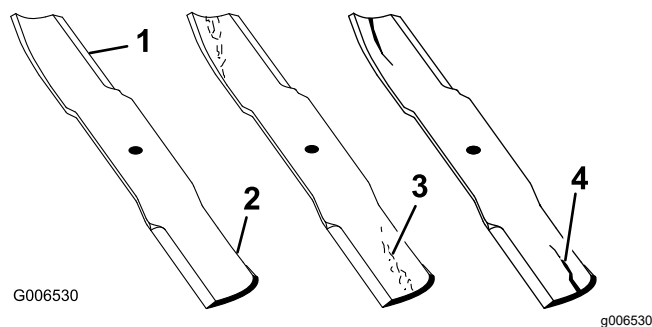

Figure 51
1. Inspect the cutting edges (Figure 51).
4. If you notice any cracks, wear, or a slot forming in this area, immediately install a new blade (Figure 51).